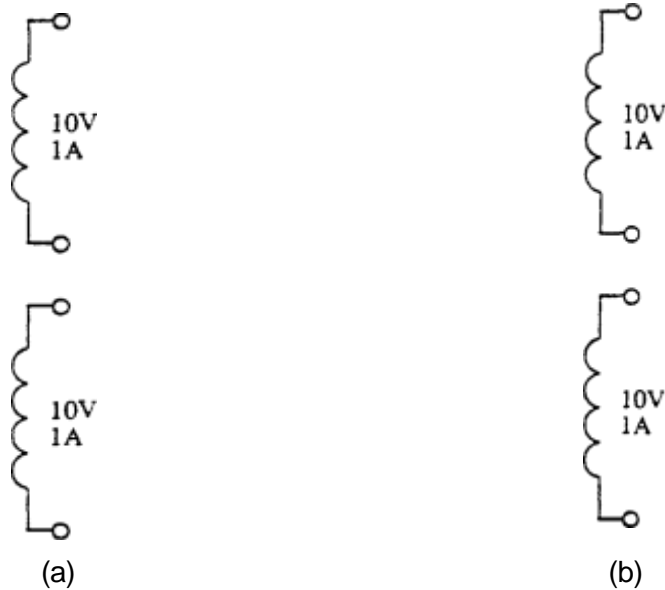

Figure 27.
Refer to the diagram in Figure 27 and answer the following questions:
The transformer secondary windings shown in Figure 27 each have an RMS voltage of 10V. Each winding also has a maximum current rating of 1 amp.
- (a) Draw on the diagram of Figure 27(a) the wire connections to produce 10V at 2A
- (b) Draw on the diagram of Figure 27(b) the wire connections to produce 20V.